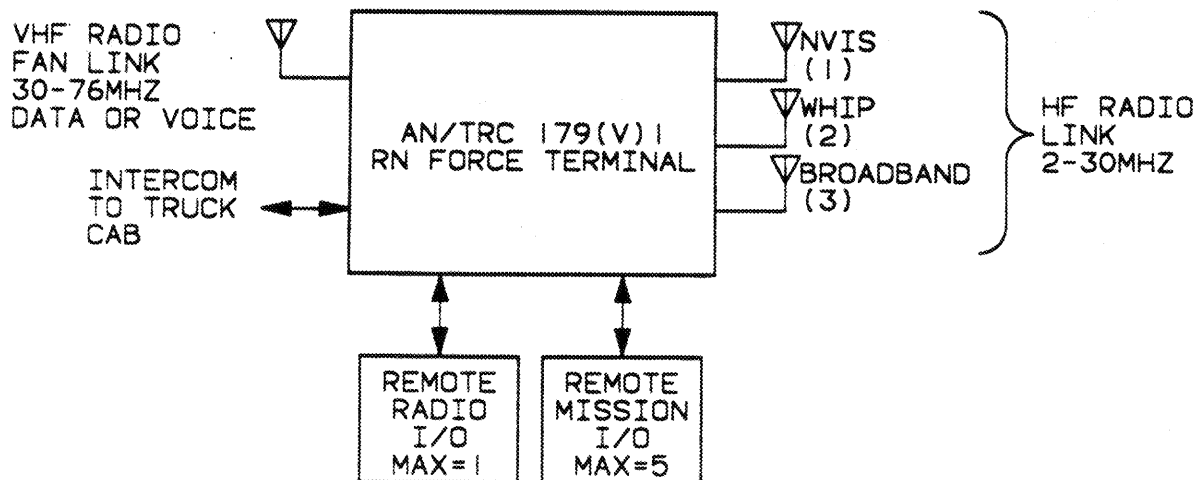

Figure 2-3. Force Terminal Regency Net Interconnects
a. The Force Terminal provides radio communications with the remainder of the RN elements. It also links AN/MSC-64 FAN Terminals, and remoted I/O Units (Figure 2-3).